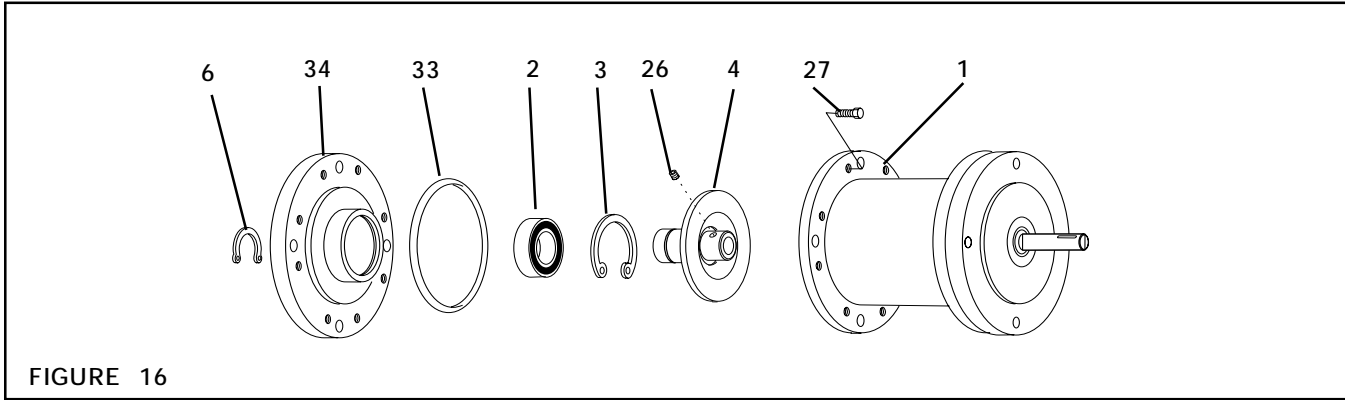

FIGURE 16
1. Remove the Retaining Ring (Item 6) from the Drive Disc (Item 4) (See Figures 16 and 17).
2. Fully supporting the Female Pilot (Item 34), press out the Drive Disc (Item 4) (See Figures 16 and 17).
3. Remove the Retaining Ring (Item 3) from the Female Pilot (Item 34) (See Figures 16 and 17).
4. Press the Bearing (Item 2) out of the Female Pilot (Item 34) (See Figures 16 and 17).
5. Fully supporting the Female Pilot (Item 34) and pressing on the outer bearing race, press the new Bearing (Item 2) into the Female Pilot (See Figures 16 and 17).
6. Install the Retaining Ring (Item 3) into the Female Pilot (Item 34) (See Figures 16 and 17).
7. Fully supporting the inner race of Bearing (Item 2), press the Drive Disc (Item 4) into the Bearing and Female Pilot (See Figures 16 and 17).
8. Install the Retaining Ring (Item 6) onto the Drive Disc (Item 4) (See Figures 16 and 17).
11. Coat the new O-ring Seal (Item 33) with fresh O-ring lubricant and place the new O-ring onto the Female Pilot (See Figure 16).
12. Secure the Female Pilot (Item 34) to the Housing with the eight Hex. Head Cap Screws (Item 27) (See Figure 16).
3. Remove the Female Pilot Assembly, O-ring Seal (Item 33), and the Input Unit from the FMCBE (See Figure 16).
4. Remove the Set Screw (Item 26) and slide the Female Pilot (Item 34) off the Input Unit (Item 20) (See Figure 16).